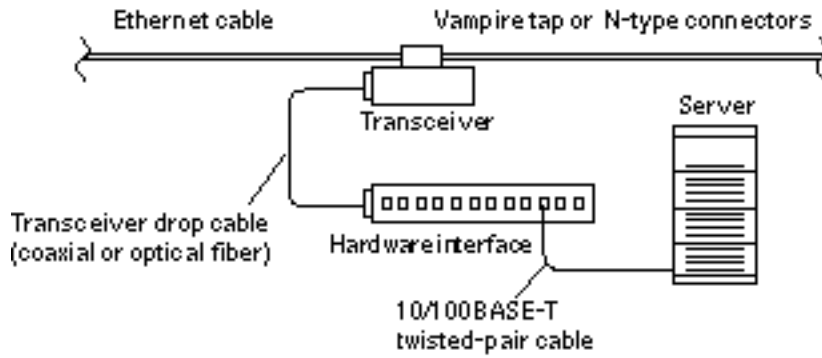

Figure 2-7 Connecting Twisted Pair Ethernet to N-type Coaxial Cable
Figure 2-7 shows a typical arrangement for connecting the system to an Ethernet network.
- If the Ethernet cable lacks N-type connectors at the ends, use a “vampire” tap to connect the cable to the transceiver. See Figure 2-7. To connect the cable to the transceiver, use instructions provided with the vampire tap.
Figure 2-7 shows the elements used in the installation process.